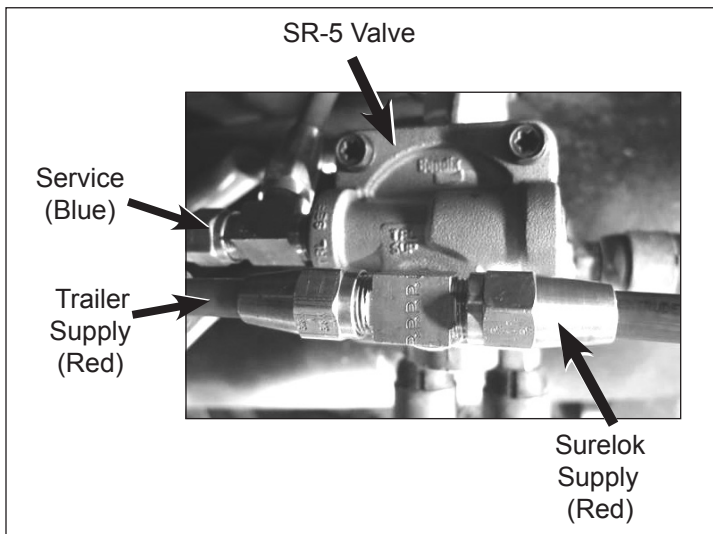

Figure 4 – Piston Cover Air Line Connections
1. Identify and disconnect all the air lines connected to the control piston cover. *(Refer to Figure 4.)*